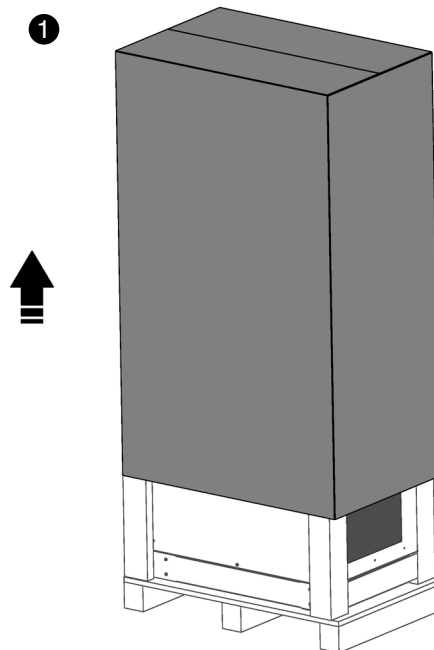
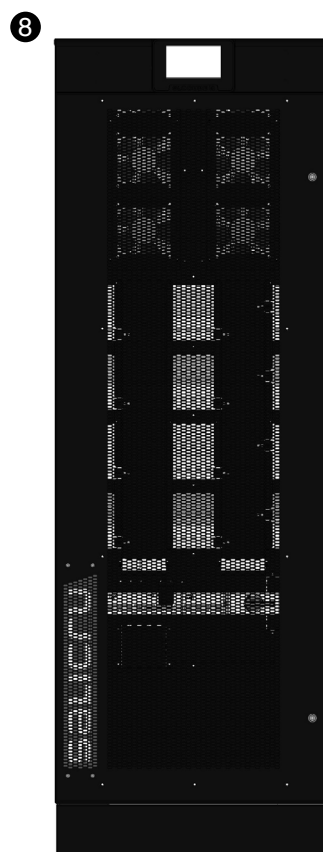

Fig. 28. Removing the cardboard packaging.
Fig. 35. Example of an unpacked unit.
In Fig. 28 to Fig. 35 are shown, by way of example, the illustrations corresponding to the unpacking of the UPS cabinet from 50 kVA to 80 kVA.
- ❶ To unpack the equipment, cut the strips of the cardboard enclosure and remove it from above as if it were a cover (Fig. 28) or disassemble it with the necessary tools if the enclosure is made of wood.
- ❽ Equipment unpacked in its final location (Fig. 35).